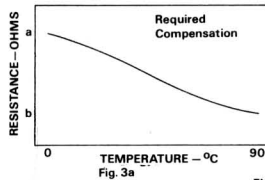

Fig. 3a
There remain only two unknowns to determine in order to satisfy the required compensation; (1) Select a Unit Curve with the proper shape; (2) Calculate the value of the shunt resistor. For example, first construct a graph (fig. 3a) of the resistance-temperature characteristic required of the compensator network. Compare this graph to the Unit Curves until one is found which most nearly matches the shape of the required characteristic. Assuming that it matched the .4 Unit Curve of the Grade #3 family (Fig. 7) and the temperature range required was 0°C to 90°C, the value of the shunt resistor can then be calculated. Referring to the Unit Curve, 0°C corresponds to an equivalent resistance of .507 ohms and 90°C represents .049 ohms. Letting "a" represent the compensator network resistance required at 0°C and "b" the comparable resistance required at 90°C, the following simultaneous equations can be set up: